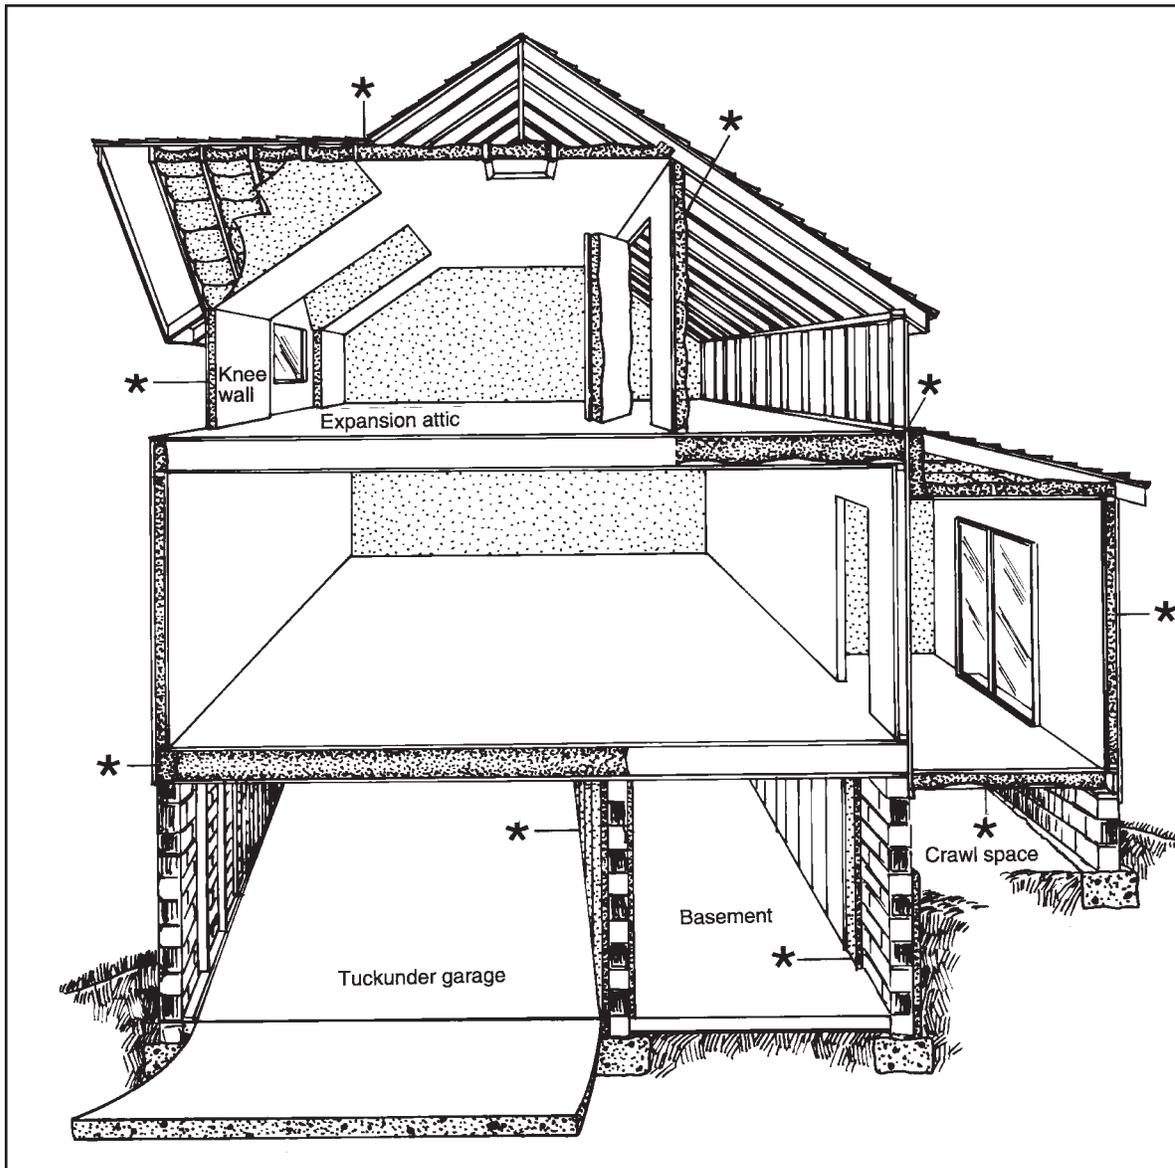

Figure 1:
How do we improve home energy efficiency? Increasing insulation is perhaps the first answer that comes to mind, but it is only part of the answer. Improving our home's energy efficiency involves an understanding of the "thermal envelope," that barrier to heat loss (and summer heat gain) that protects and separates the indoor living space from the outdoor climate. (See Figure 1.) Insulation is the heart of the thermal envelope, but it is only one part of an entire system that also includes siding, sheathing, sheetrock, and other materials that prevent heat loss through air leaks and keep wind and moisture from penetrating the thermal envelope, reducing the effectiveness of the insulation.
Figure 1 shows a home and indicates where insulation would be placed to create a barrier to heat loss.
**Checking current insulation level.** To determine if you need more insulation, you must first find out how much insulation you have. One way to do this is to check for yourself. Look at Figure 1. You will want to see if you have insulation (and how much) in these key locations - the basement walls, exterior walls, floors above cold spaces, and ceilings below cold spaces. In unfinished areas such as attics, where structural frame elements are exposed, you can see the type of insulation and measure its thickness.
In unfinished attics, insulation should be put between the floor joists to seal off living spaces below. In finished attics with or without dormers, insulation should go between the studs of knee walls, between the studs and rafters of exterior walls, and in ceilings with cold spaces above (Figure 1).
**Crawl spaces.** Often one or more rooms – in some cases the whole house – will not rest on a basement foundation but have only a crawl space underneath. Any part of the house that is heated should be included in the thermal envelope and should be separated from unheated space by an insulation barrier (see Figure 1).